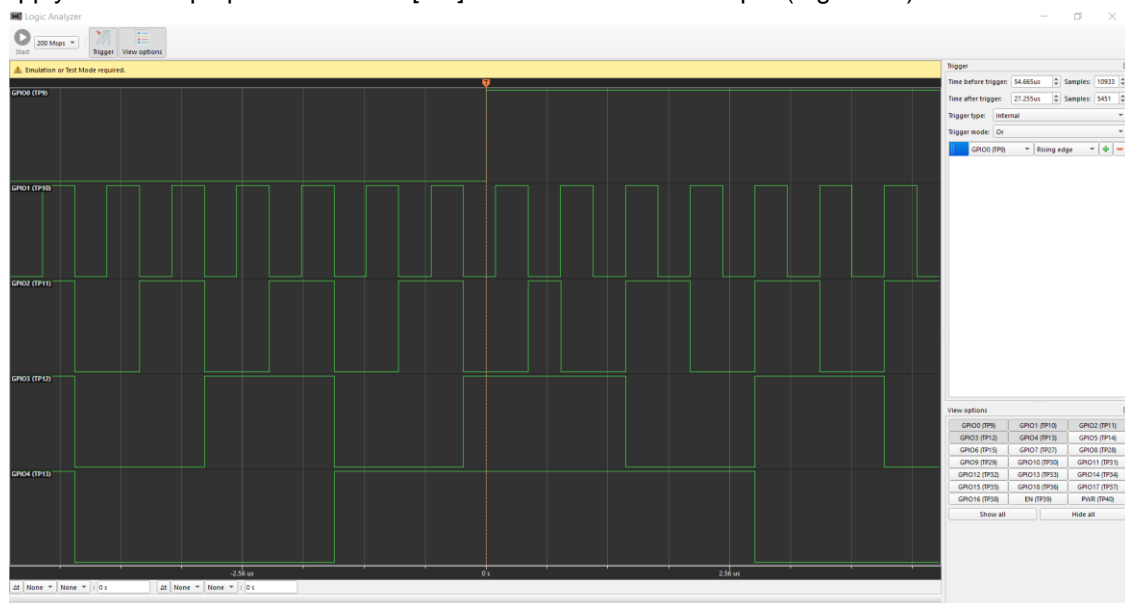

Figure 17: Waveforms of 4-bit counter after Emulation
13. Now the counter is loaded onto the FPGA device. GPIO[4:1] will have the outputs of the counter on them. Apply oscilloscope probes to GPIO[4:1] to view the counter output (Figure 17).